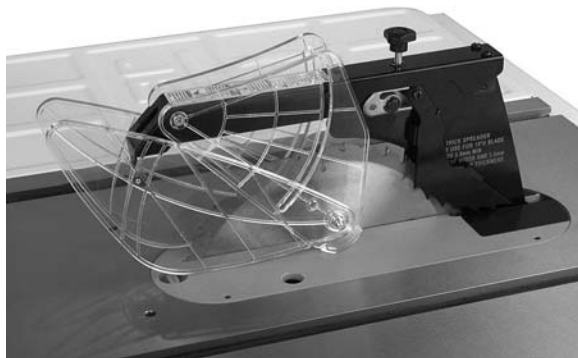

Figure 15
1. Push up guard leaves (B) until they catch and hold on the peg (C).
3. Tighten knob (D).
4. Pull down guard leaves into position shown in Figure 15.